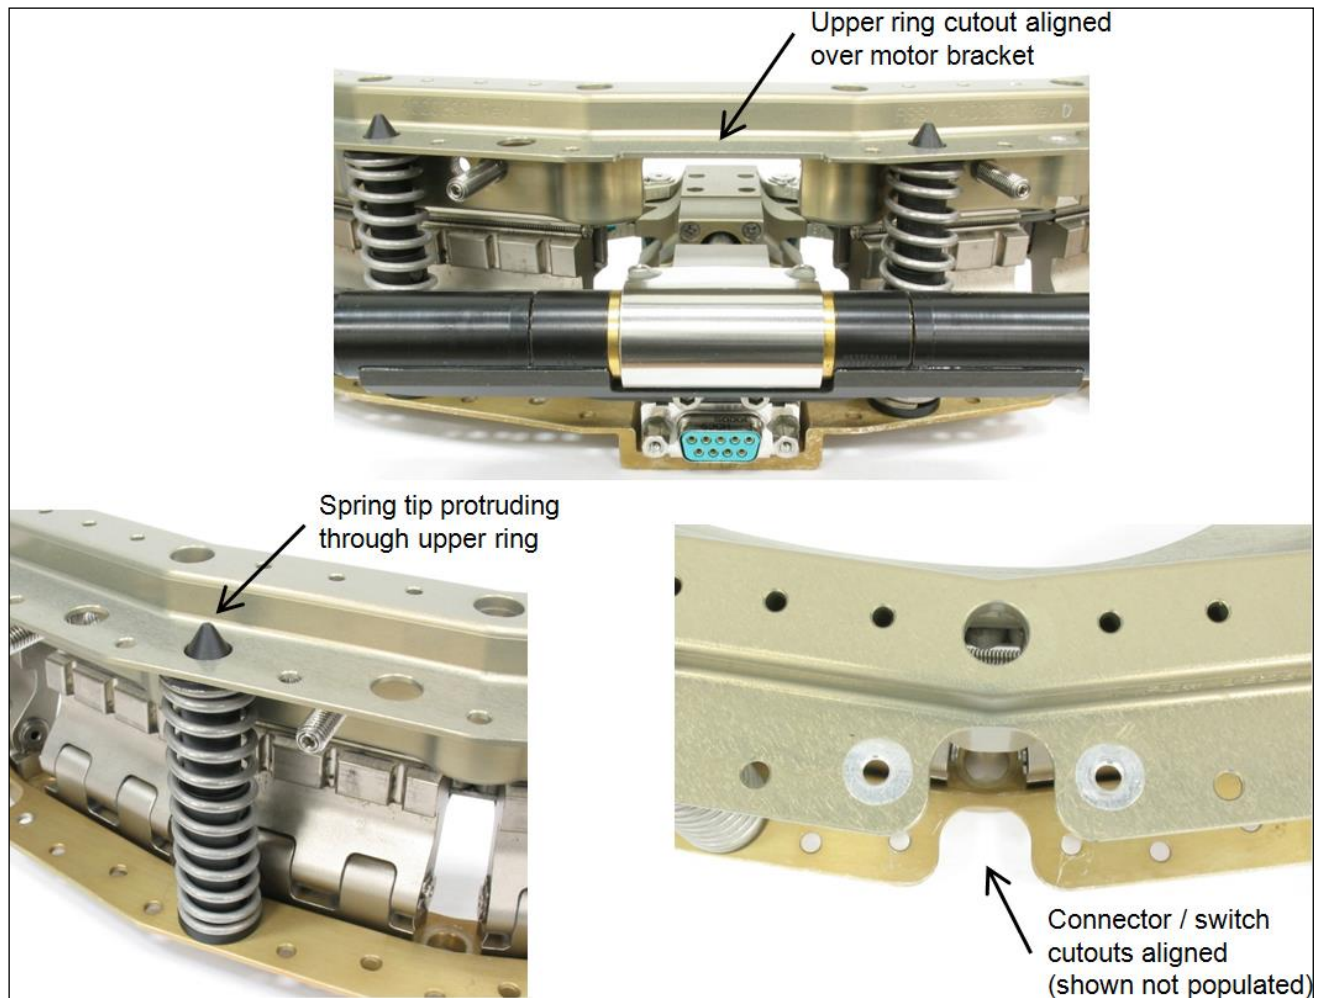

Figure 17: Aligning the Upper and Lower Rings.
7.1.7	<p>Bring the Upper Ring and Lower Rings close together in preparation for alignment checks.</p> <p>Alignment between the Upper and Lower Rings shall be verified prior to or just after the extended Separation Springs have contacted the Upper Ring but before any force is applied to compress the Lightband. Verify the following per Figure 17:</p> <ol style="list-style-type: none"> 1. Cutout in Upper Ring lines up over Motor Bracket on Lower Ring. 2. ALL Separation Connector/Switch cutouts align. 3. ALL Separation Spring tips protrude through appropriate holes in the Upper Ring. <p>For horizontal integration see Section 11.</p>